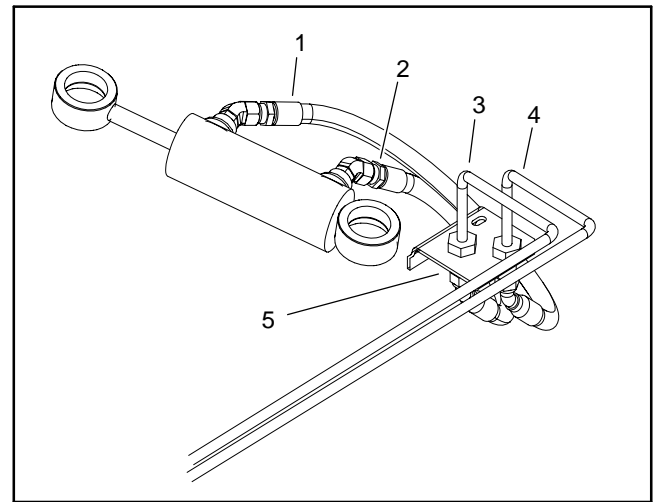
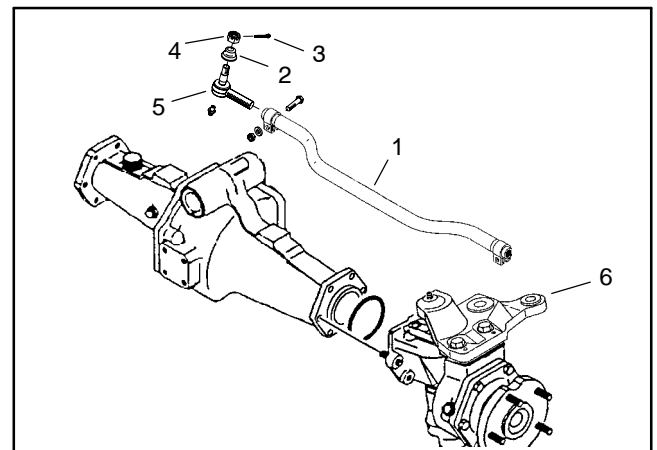
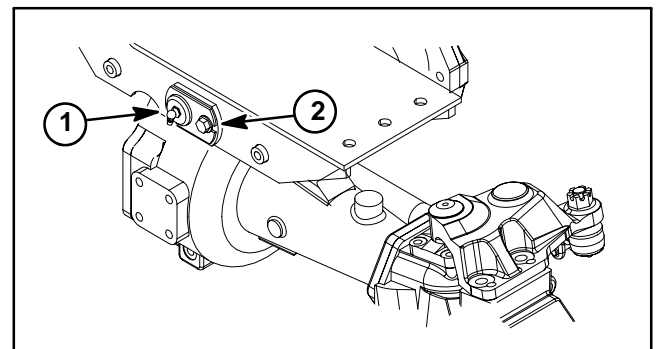

Figure 12
Figure 13
Figure 14
7. Disconnect both steering cylinder hydraulic hoses from hydraulic tubes at rear frame mount (Fig. 12). Remove bulkhead locknuts and washers that secure steering cylinder hydraulic tubes to rear frame mount. Separate tubes from frame mount.
9. If required, remove tie rod ends from steering arms on rear axle (Fig. 13). Remove the cotter pins and castle nuts from the tie rod ball joints. Use a ball joint fork and remove the tie rod ends from the axle steering arms.
10. Support rear axle to prevent it from falling. Remove six (6) cap screws, flat washers and flange nuts that secure rear frame mount to equipment frame. Lower rear axle and rear frame mount from machine.
11. Remove lock nut and washer from pivot pin that attaches rear axle to rear frame mount. Remove washer head screw that secures flange of pivot pin to frame mount (Fig. 14).
2. Install axle pivot pin to secure axle to rear frame mount. Tighten lock nut and then loosen it slightly to allow the axle pin to pivot freely. Secure pivot pin to frame mount with washer head screw (Fig. 14).
3. If removed, install the tie rod to rear axle (Fig. 13). Tighten ball joint castle nuts and install new cotter pins.
5. Secure rear mount to frame with six (6) cap screws, flat washers and flange nuts.
7. Attach steering cylinder hydraulic tubes to rear frame mount with washers and bulkhead lock nuts (Fig. 12). Install steering cylinder hoses to hydraulic tubes.